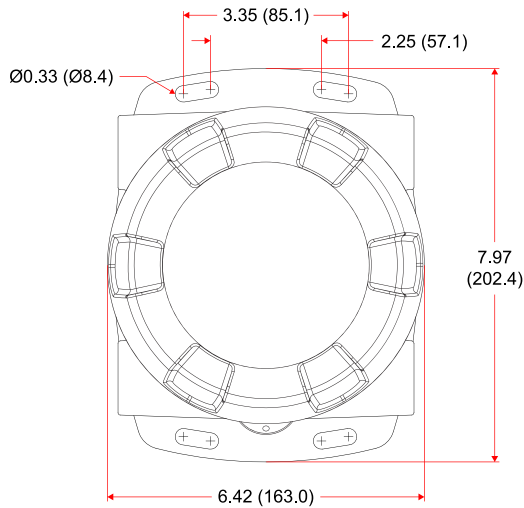
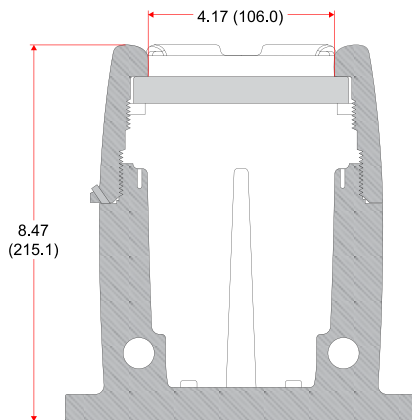

Figure 1. Enclosure Dimensions – Front View
Figure 2. Enclosure Dimensions – Side Cross Section View
The ProtEX-MAX has two slotted mounting flanges that may be used for pipe mounting or wall mounting. Refer to *Figure 1* and *Figure 2* below.
- Prepare a section of wall approximately 7" x 8.5" (178 mm x 216 mm) for controller mounting by marking with a pencil the mounting holes (shown in *Figure 1*) on the wall.
- Select the appropriate mounting screws for the mounting surface to be used. The mounting holes diameter is shown on *Figure 1*.